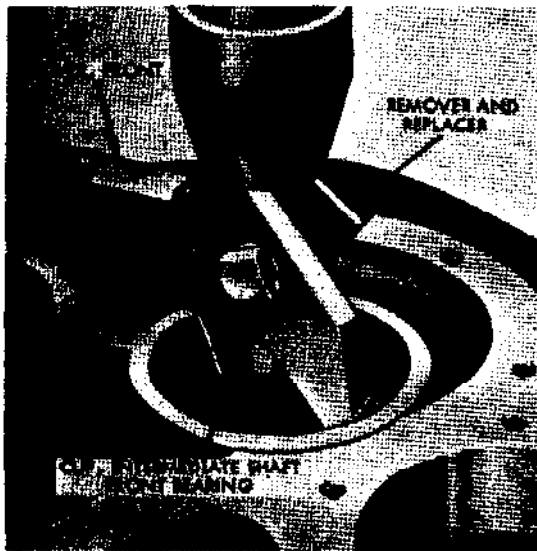

Figure 228. Bearing cup removal
- (b) To remove bearing cups, insert bearing cup remover and replacer in bearing cup (fig. 228), and remove bearing cups from cover and case.
- (c) A larger remover and replacer 5120-795-0159 (fig. 228) is required to remove the rear output shaft front bearing cup in the front cover.
- (1) Bearings. Soak bearings in dry-cleaning solvent or mineral spirits paint thinner. Saturate bearing sufficiently to loosen old lubricant and revolve bearings occasionally while immersed. If lubricant still remains, strike bearing flat against wooden block or clap
(1) *Bearings and bearing cones* (fig. 228). When a bearing or bearing cone has been cleaned and dried, take it in hand and revolve it slowly. Inspect for pitting, scoring, or excessive wear. Replace any assembly which shows damage or wear. Bearings and bearing cones, which are to